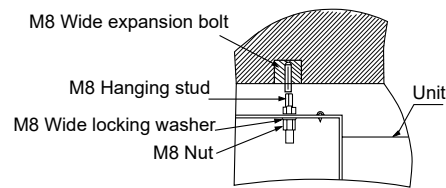

Fig.5
- Hang the unit as shown in Fig.5.